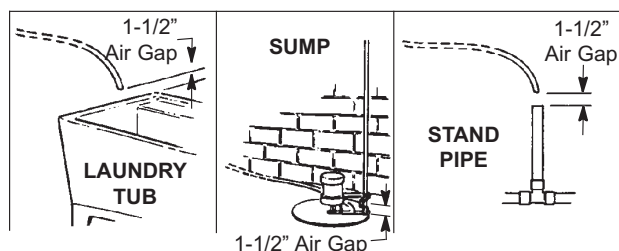

FIG. 4
- a. Take a length of 5/8" inside diameter garden hose and attach to the valve drain fitting (See Figure 4 on page 6).
- b. Locate the other end of the hose at a suitable drain point (floor drain, sump, laundry tub, etc.). Check and comply with local codes. Refer to Figure 4 on page 6 if codes require a rigid pipe drain run.
- b. Place bypass valve(s) into "bypass" position. On a single valve, slide the stem inward to BYPASS (See Fig. 4 on page 6). On a 3 valve system, close the inlet and outlet valves, and open the bypass valve (See Fig. 3 on page 6).